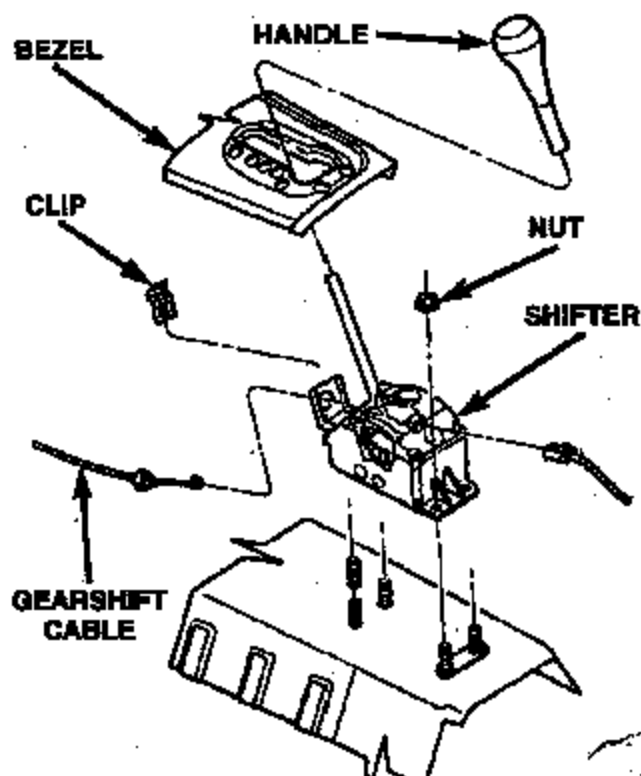

Figure 7 - Typical
7. Remove the shift bezel and/or boot (Figure 7).
9. If the gearshift cable anchor bracket is part of the shifter, remove the gearshift cable retaining clip from the shifter base slot and remove the cable (Figure 7).
11. Remove the shifter-to-floor pan attaching nuts (Figure 7).